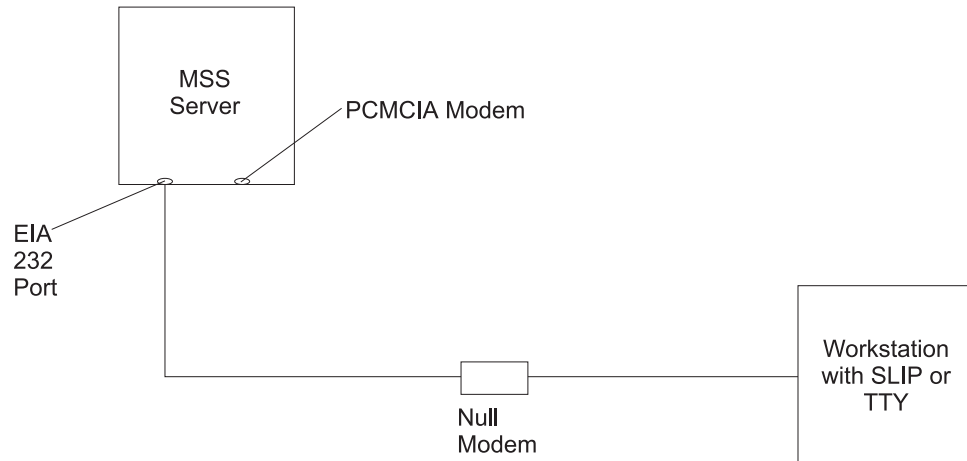

Figure 3-1. Local Serial Connection to the EIA-232 Port
- A local connection through a null modem cable attached to the EIA-232 service port (see Figure 3-1 on page 3-2)